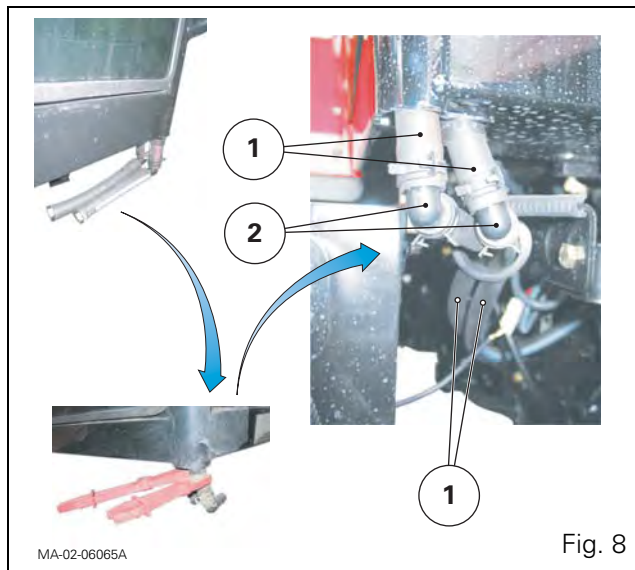

Fig. 8
17. Mark the heating hoses (1) at the base of the cab right-hand pillar.
Pinch them both upstream and downstream of the elbow unions (2) (Fig. 8) in order to keep fluid loss to a minimum.